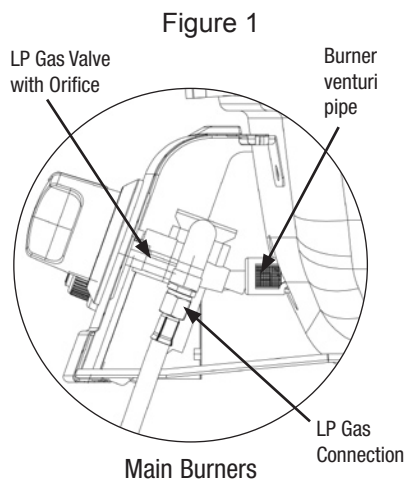

Figure 1
2. Please refer to diagram for proper installation. (Figure 1 and 2)